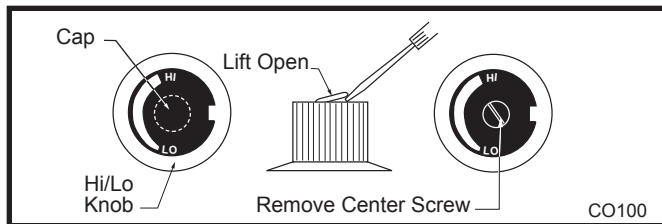

Fig. 59 Remove center screw from Hi/Lo knob.
1. Remove cap from HI/LO knob. This can be accomplished by lifting the plastic cap off the screw. (Fig. 59)
2. Remove the screw from center of HI/LO knob with small screwdriver turning counterclockwise. (Fig. 59)